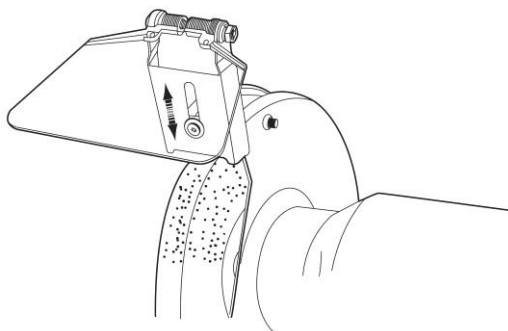

Fig.6
2. Slide the spark deflector (5) up or down as required.
3. Hold the spark deflector (5) in position with one hand and re-tighten the nut (10a).
4. Fold the viewing windows up (4) or down as required. The viewing windows should be set so that it deflects flying sparks and chips (Fig.6).